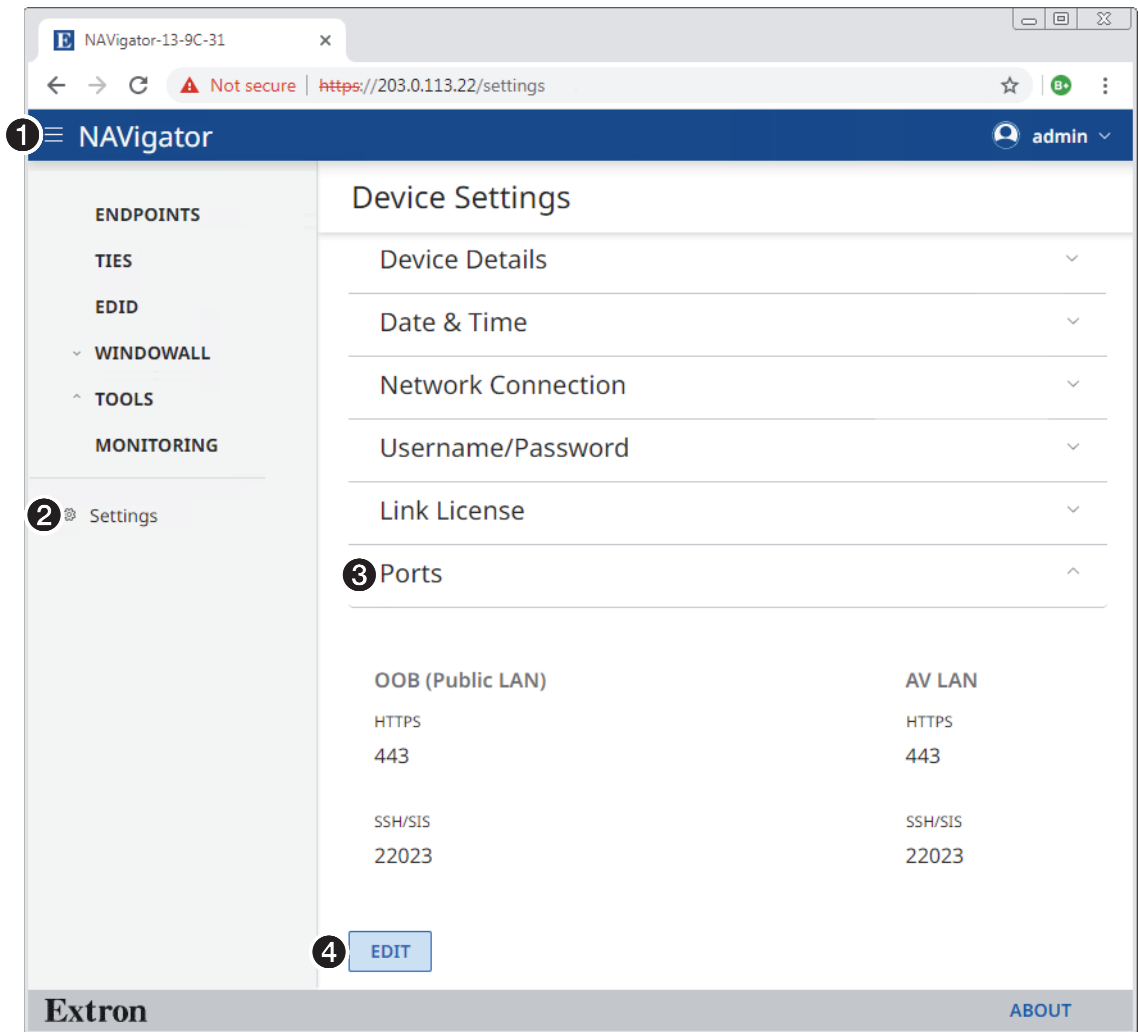

Figure 113. Ports Page
1. If necessary, click the **Menu** icon (see figure 113, ❶).